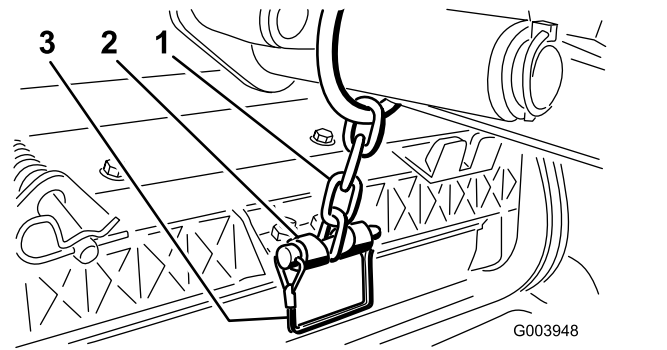

Figure 10
11. Secure the lift-arm chain to the chain bracket with the snapper pin (Figure 10).